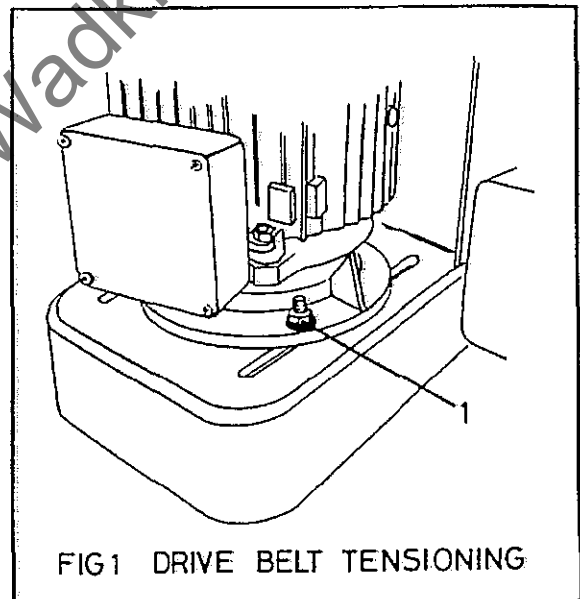

FIG1 DRIVE BELT TENSIONING
#### Vee Belt Drive Tensioning (Fig 1)
**Replacing Vee Belts (Fig 1)**